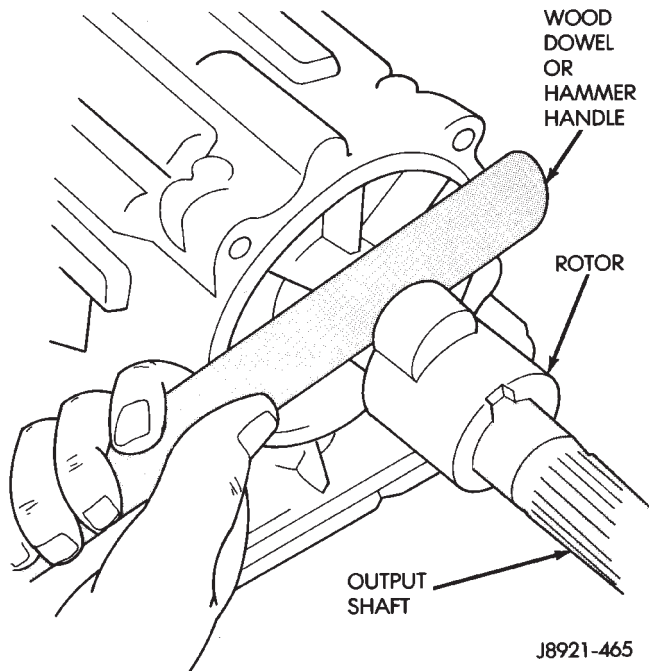

Fig. 42 Removing Speed Sensor Rotor
- (10) Remove the speedometer drive gear and spacer, if equipped.
- (11) Remove rotor from the output shaft. It may be necessary to use a wood dowel or hammer handle (Fig. 42) to gently pry the rotor from the output shaft. Be sure to retrieve the rotor locating key from the output shaft or rotor.